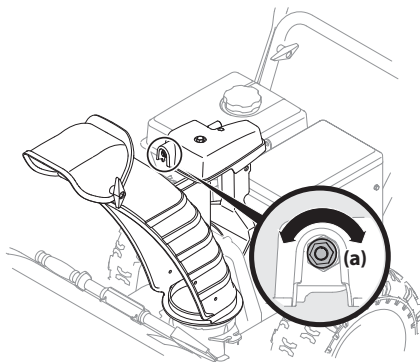

Figure 4-9
1. To increase preload, tighten hex nut (a) clockwise in ¼ turn intervals. The chute control rod will need to be held stationary when tightening the nut. See Figure 4-9